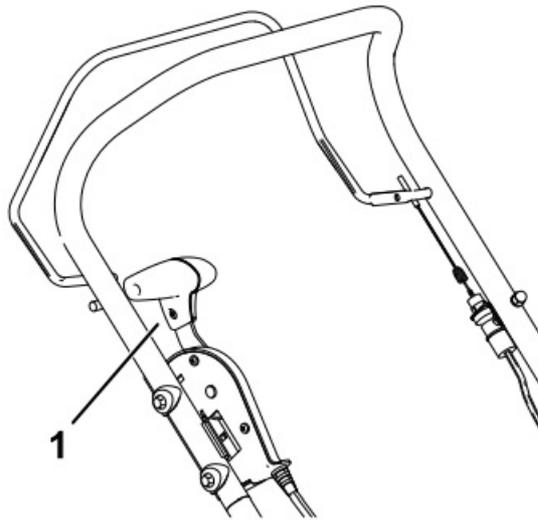

Figure 10
3. Move the transport lever all the way back toward you into the transport position (Figure 10).
5. Move the transport lever all the way back toward you into the transport position (Figure 10).
To shut off the engine, release the blade-control bar and move the transport lever all the way back toward you into the transport position (Figure 10).